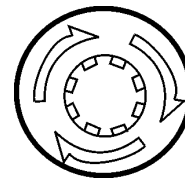

**Figure 56. MPEC Control Switch (Off/Reset)**
4. Place the **MPEC Control Switch** (Figure 56) to the **OFF/RESET** position.